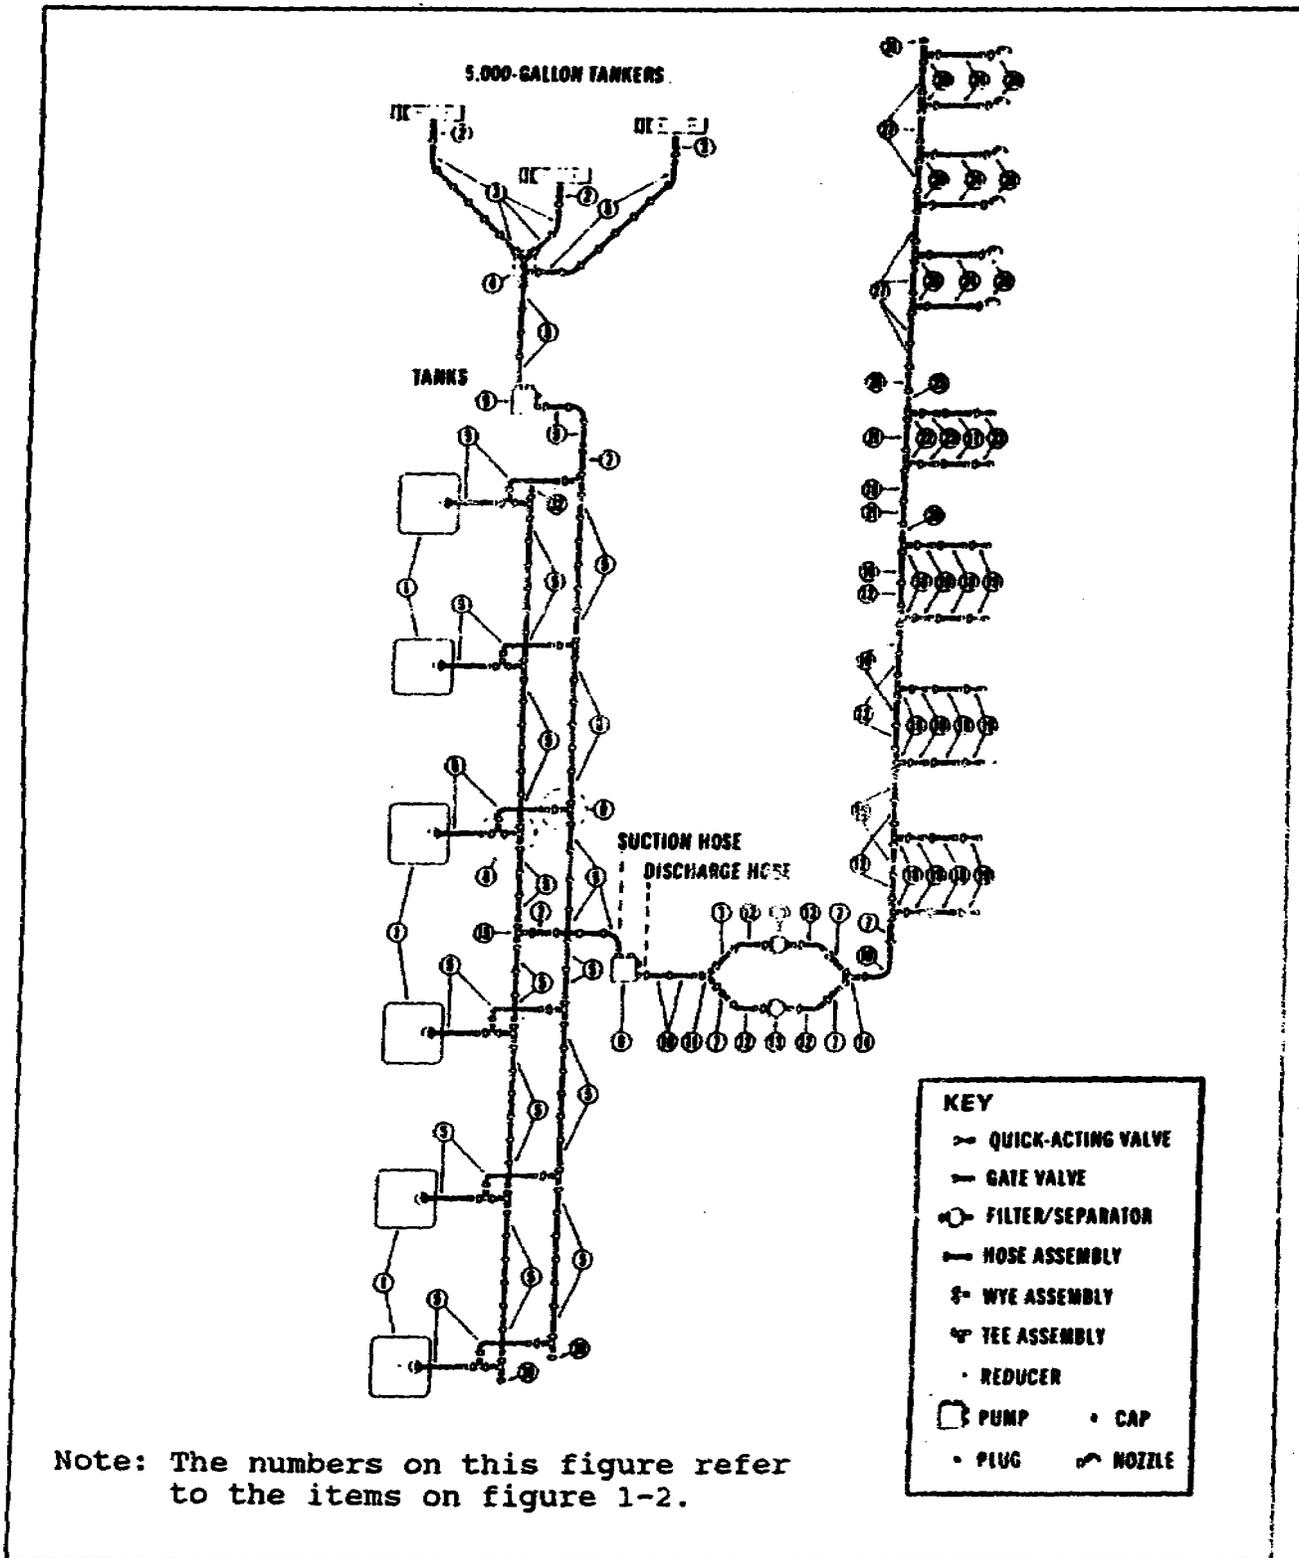
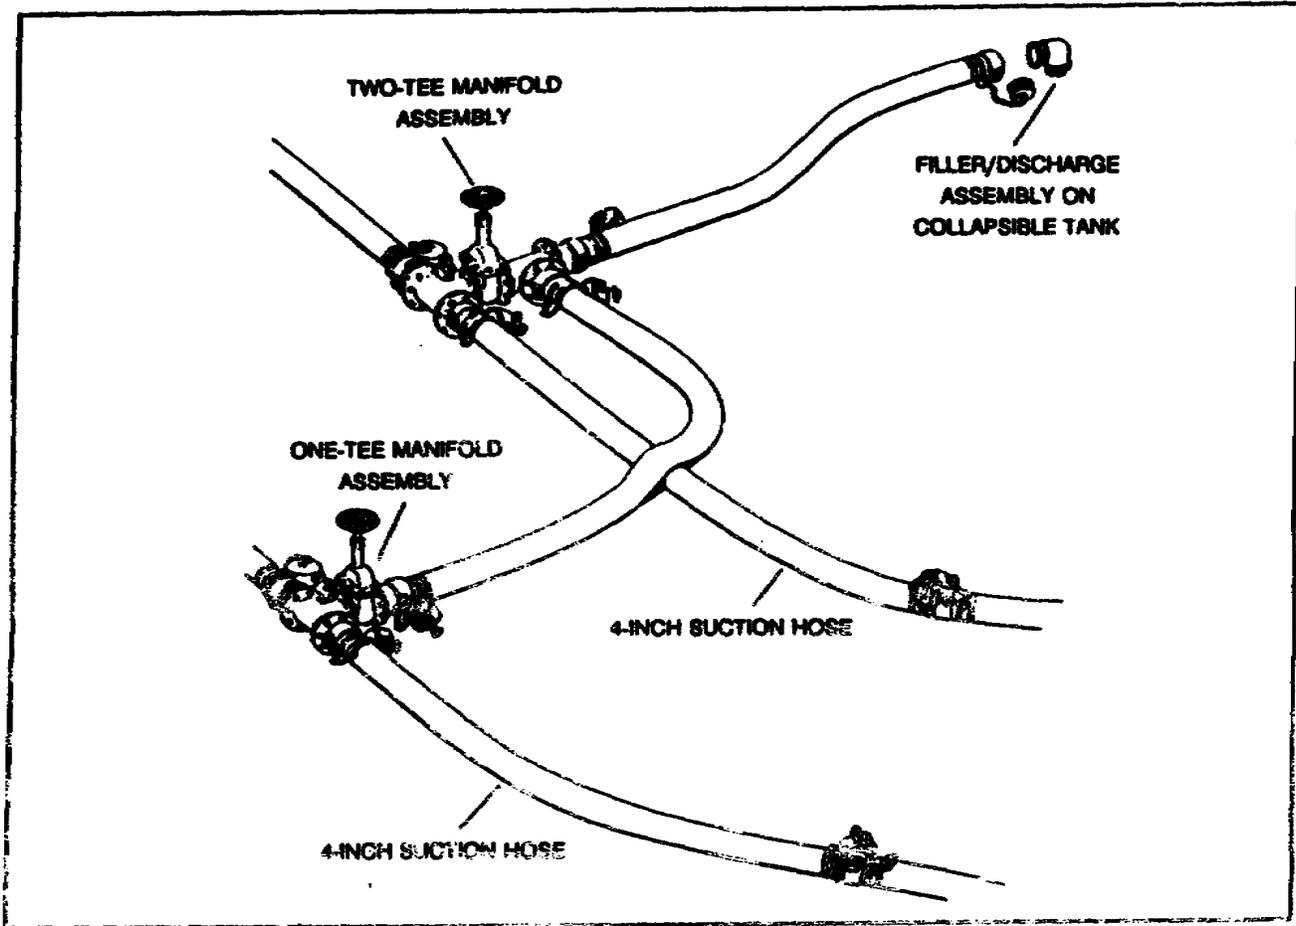
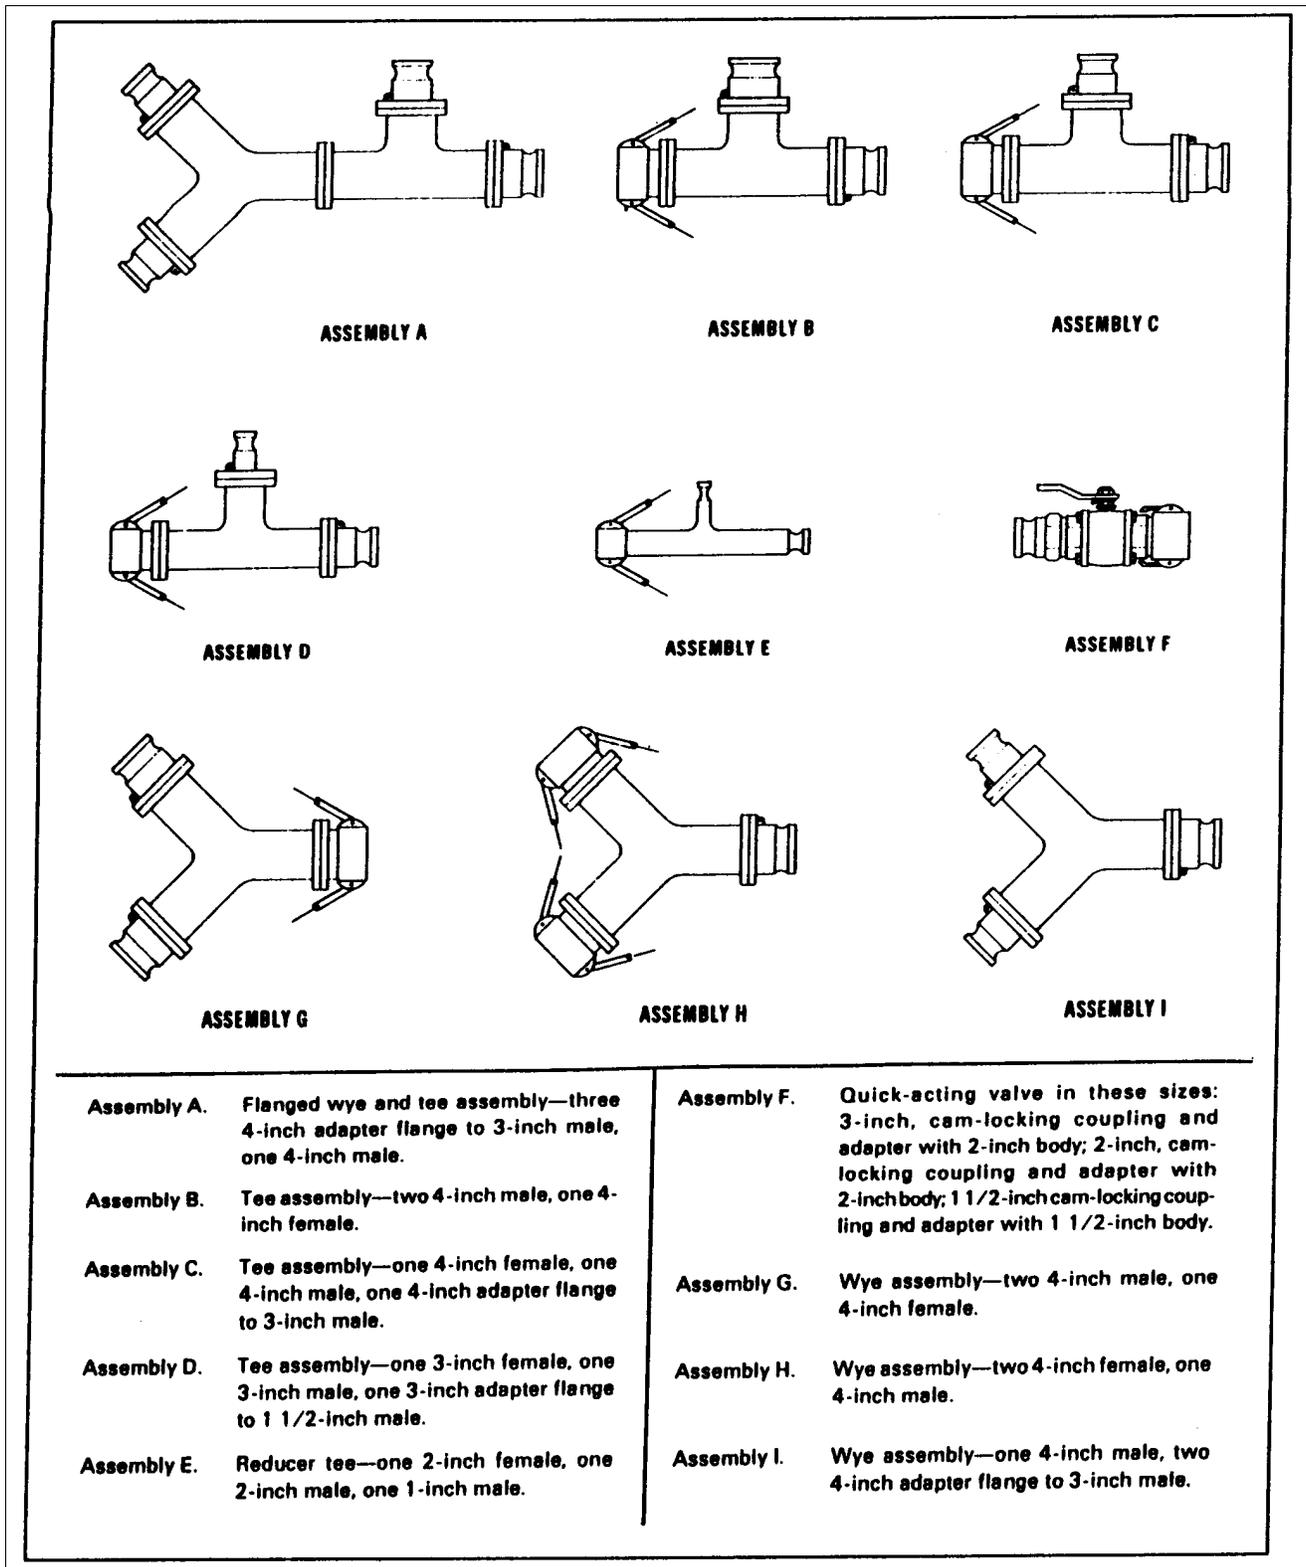

Figure 1-1. Typical fuel system supply point layout
Figure 1-3. Hose line manifold assemblies
Figure 1-4. Fuel system supply point fitting assemblies
Approximately 2,400 feet of hose and nine types of fitting assemblies connect these fuel system components. When you requisition an FSSP, you receive only the hoses, fitting assemblies, and tools to connect the above components. Figure 1-1 shows a typical FSSP layout, and Figure 1-2 lists the components.
a. Receiving Manifold. The receiving manifold consists of a wye and tee assembly (reducing from 4 to 3 inches), lengths of 3-inch suction hose, and 3-inch gate valves as shown in Figure 1-1. With this manifold, the FSSP can receive product from more than one transporter at a time. It also provides a way to switch from one supply source to another. Use grounding equipment whenever you receive fuel through the manifold, because contact between the receiving manifold and the ground is not perfect.
d. 10,000-Gallon Collapsible Tanks. The FSSP normally has six 10,000-gallon collapsible tanks to store fuel. Each tank uses one hose line manifold assembly with two-tee fittings and one hose line manifold assembly with one-tee fitting. The manifold, as shown in Figure 1-3, has two rising-stem, double-acting gate valves to control the flow of fuel into and out of the collapsible tank.
to 3 inches) coupled to a 3-inch, cam-locking coupling valve followed by 25 feet of 3-inch discharge hose coupled to a 3-inch, cam-locking coupling valve as shown in Figure 1-1.
f. 500-Gallon Collapsible Drum Filling Points. There are two 500-gallon collapsible drum filling points in the FSSP. Each point consists of a tea assembly (reducing from 3 to 1 1/2 inches) coupled to a 1 1/2-inch, cam-locking coupling valve. Following this is 25 feet of 1 1/2 -inch discharge hose coupled to a 1 1/2-inch, cam-locking coupling valve as shown in Figure 1-3. You can also use the pressure control (which is not a component of the FSSP) for the filling operation. The inlet of the pressure control attaches to the downstream end of the 1 1/2-inch discharge hose. The 5-foot length of pressure control discharge hose connects from the control outlet to the drum elbow coupler valve as shown in Figure 1-1.
g. 5-Gallon Can and 55-Gallon Drum Filling and Vehicle Refueling Points. There are six 5-gallon can and 55-gallon drum filling and vehicle refueling points in the FSSP. Each point consists of a tee assembly (reducing from 2 inches to 1 inch) followed by 25 feet of 1-inch discharge hose coupled to a 1-inch aluminum nozzle as shown in Figure 1-1.
a. Suction and Discharge Hoses. The two types of hose assemblies used in the FSSP are suction hard hose assemblies and discharge collapsible hose assemblies. Each hose assembly has a male coupling (with a dust cap) on one end and a female coupling (with a dust plug) on the other end. Figure 1-1 shows where to use the lengths of hoses. Use the dust caps and plugs when the hose sections are not connected to the system.
b. Fitting Assemblies. The FSSP uses nine types of fitting assemblies, as shown in Figure 1-4, to connect hose sections, valves, and components. Assembly F consists of three quick-acting valve sizes. Keep dust caps and plugs on the assemblies when they are not in use. To prevent loss, attach dust caps and plugs to the hose fittings with a chain. Ensure that all fittings have gaskets. Figure 1-1 shows the location of each fitting assembly.